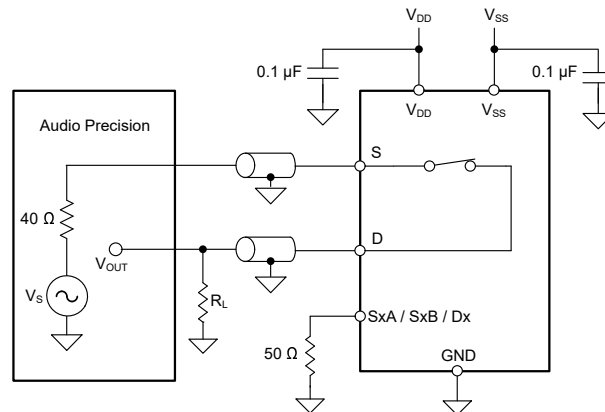

**Figure 6-12. Bandwidth Measurement Setup**
Bandwidth is defined as the range of frequencies that are attenuated by less than 3 dB when the input is applied to the source pin (Sx) of an on-channel, and the output is measured at the drain pin (D) of the device. Figure 6-12 shows the setup used to measure bandwidth.